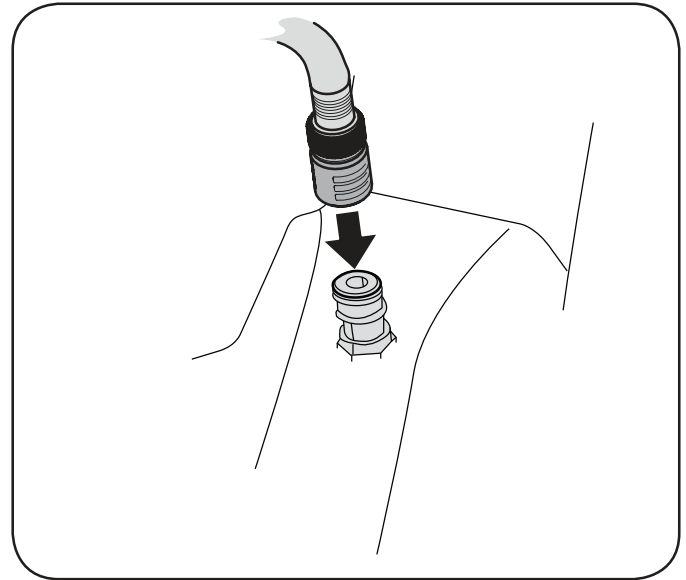

Figure 11
3. Attach the hose coupler to the water port on your deck's surface (Figure 11).